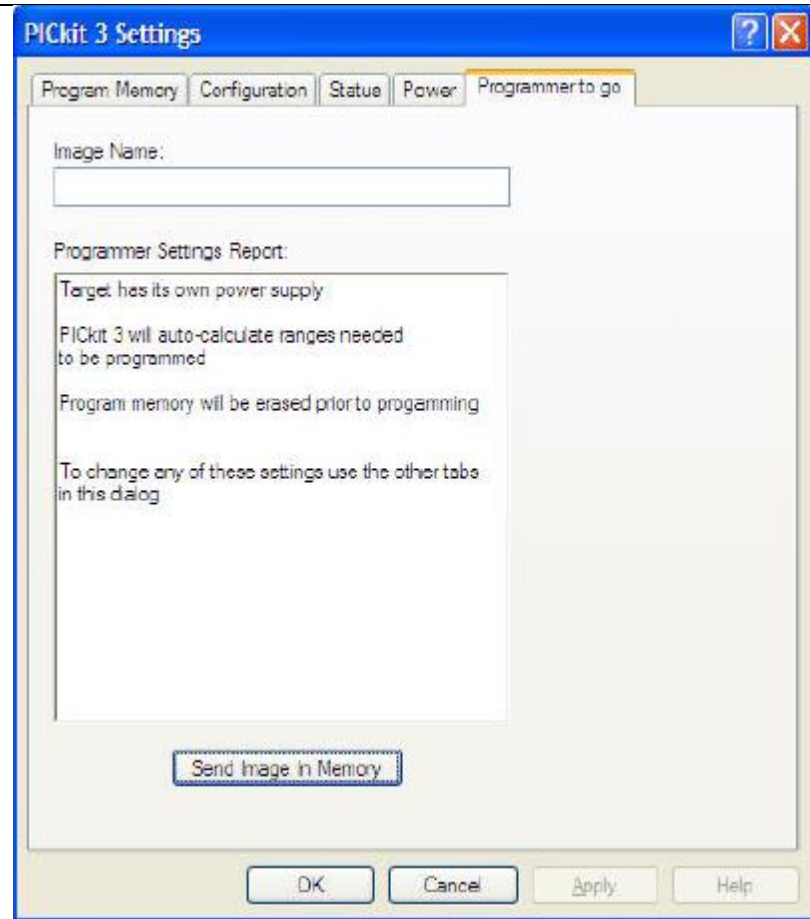

Figure 9.1.1
7.1.1.4	In 'Programmer' menu select 'Settings' and click on 'Programmer to go Tab' (Figure 9.1.1).